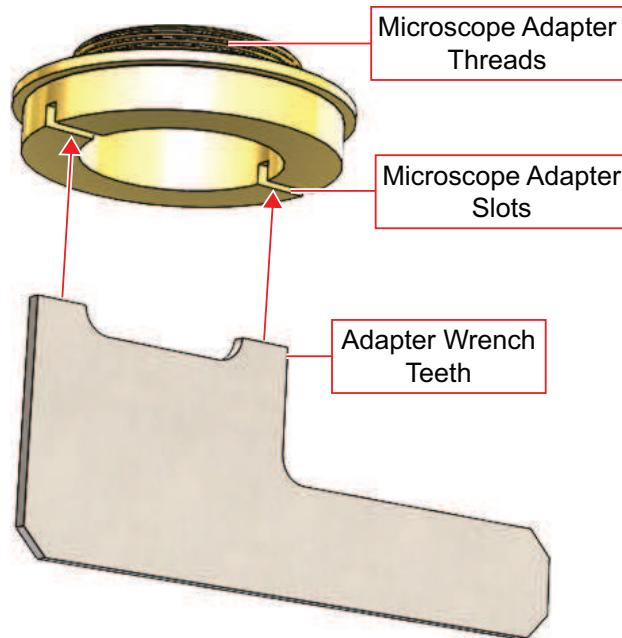

Figure 2-3: Microscope Adapter and Adapter Wrench
Step 1: Thread the microscope adapter into the microscope turret. Tighten the adapter by inserting the adapter wrench teeth into the adapter slots as shown in Figure 2-3. The adapter should be firmly tightened but not over-tightened as possible damage to the adapter could occur.